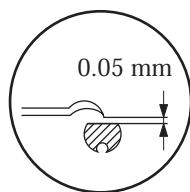

Fig.2
8. Adjust lever "c" axially to obtain a clearance of less than **0.05mm** between point of looper and needle. (See Fig.2)